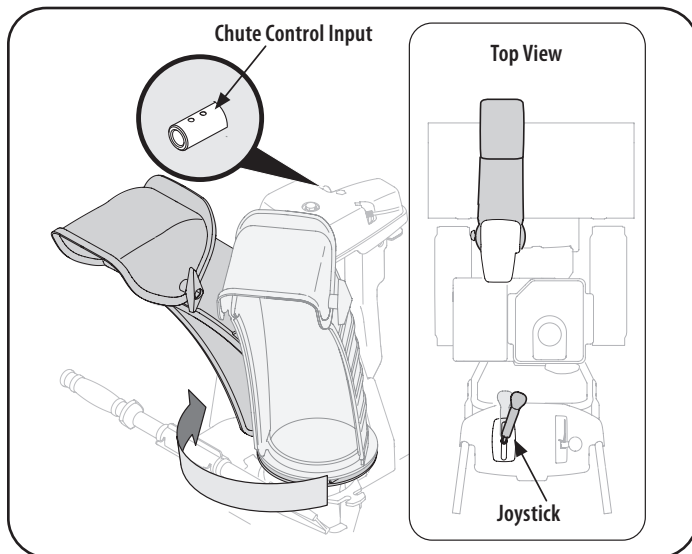

Figure 22
4. Squeeze trigger on joystick and rotate chute by hand to face forward. The holes in chute control input will be facing up. See Figure 22.